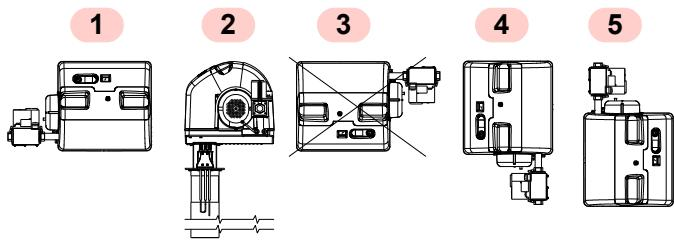

Fig. 4
- The burner is designed to operate only in positions **1, 2, 4 and 5** (Fig. 4).